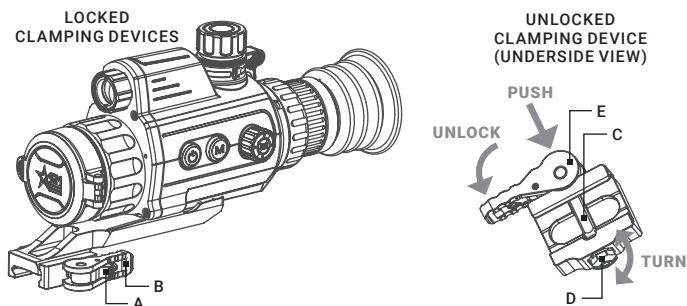

FIGURE 2-5. MOUNT
To install the Neith DS on a Picatinny/Weaver rail, perform the following (Figure 2-5):
2. With the clamping device unlocked (as shown in Figure 2-5), push the cam (E) towards the arrow, which will cause the nut (D) to slide out of its hole.
3. To tighten/ loosen the clamping device, push down on the cam (E) and turn the nut (D) CW/ CCW respectively, in one-two increments (see note below). Much like when the cam (E) is released, backward-moving spring will cause the nut (D) to slide back into its hole.